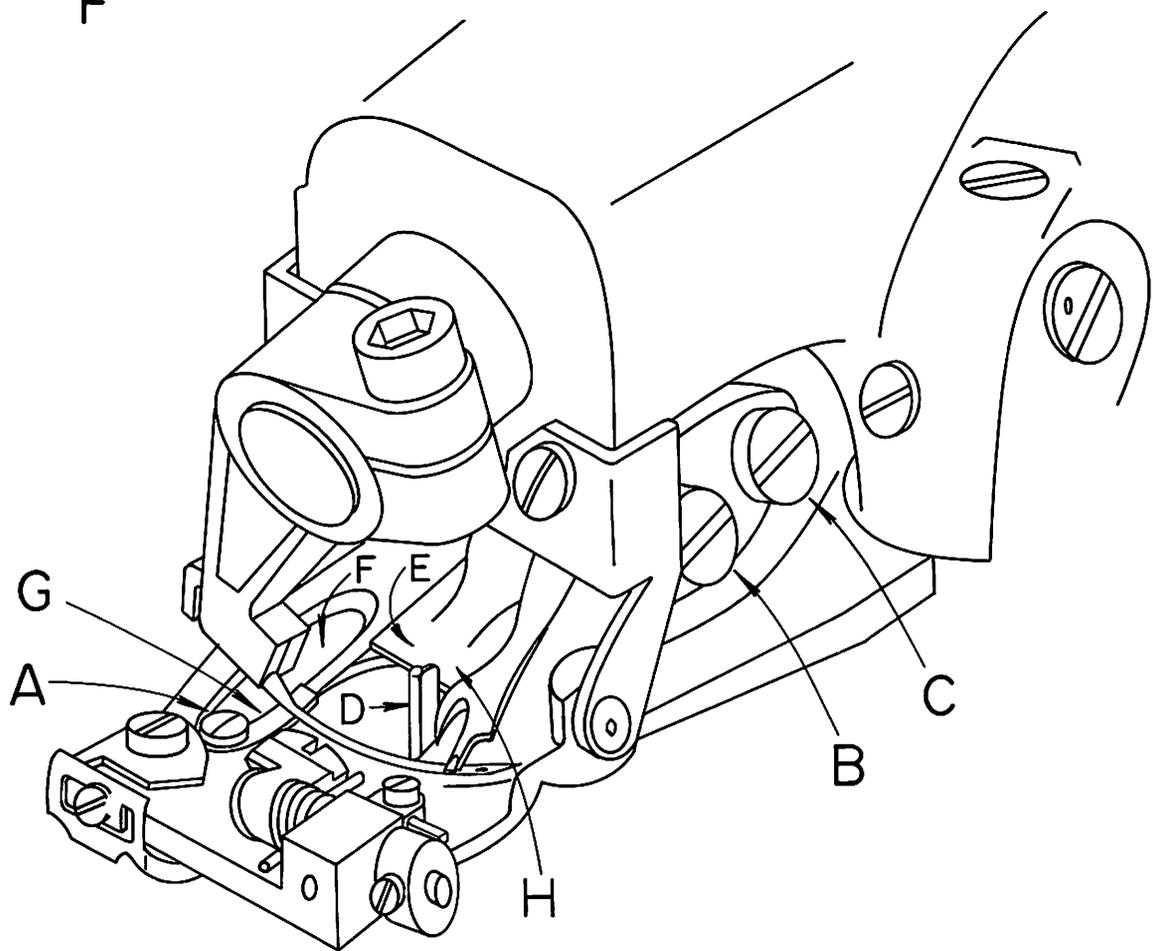

FIGURE 9
9. After all the necessary adjustments have been made, tighten all set screws and the lock nut and recheck all the adjustment points. Referring to Figure 9, the looper should now clear the chain-off pin ("D"), feeder ("E"), looper slot ("F"), needle, and pass over the needle in the correct position to pick up the loop.
1. After considerable service, it may be expected that the wearing action of the needle will cause a sharp edged groove to form on the needle guide (item "G" in Figure 9).
2. Loosen the needle guide attaching screw (item "A" in Figure 9) and remove the worn needle guide. Clear out any lint or dirt that may have accumulated under the old guide and insert the new guide. Insure that the new guide is seated flush with the top and side of the presserfoot and then retighten the attaching screw. Slowly turn the handwheel in the direction away from the operator and check to insure that the new guide fits properly under the needle and that no interference has been introduced between the guide and the looper.
1. In the event that the machine develops difficulty by failing to properly feed the work, a worn feeder is frequently found to be the cause. After considerable service, especially with certain hard fabrics, the feeder teeth have a tendency to become dull, and the feeder should be replaced. In order to remove the old feeder, remove the front feeder attaching screw (item "B" in Figure 9) and loosen the rear feeder attaching screw (item "C" in Figure 9). The old feeder may then be slid out of place. Insert the new feeder under the rear screw and replace the front screw.
2. Before tightening the attaching screws check to see that the feeder is set to the proper depth. Referring to Figure 10 this should be approximately  $\frac{1}{32}$ " (.795mm) below and parallel to the bottom of the presserfoot for all light and medium weight fabrics. For heavy fabrics, the setting should be approximately  $\frac{1}{16}$ " (1.59mm) below and parallel to the bottom of the presserfoot. These dimensions are intended as guides and may be modified as required by the specific fabrics. Once the proper depth is established, rotate the handwheel slowly in a direction away from the operator and check to insure that the feeder clears the looper (see Figure 9, Point "H") and also clears both sides of the feeder slot in the presserfoot. Firmly tighten feeder attaching screws (Figure 9, Items "B" & "C") before resuming sewing.